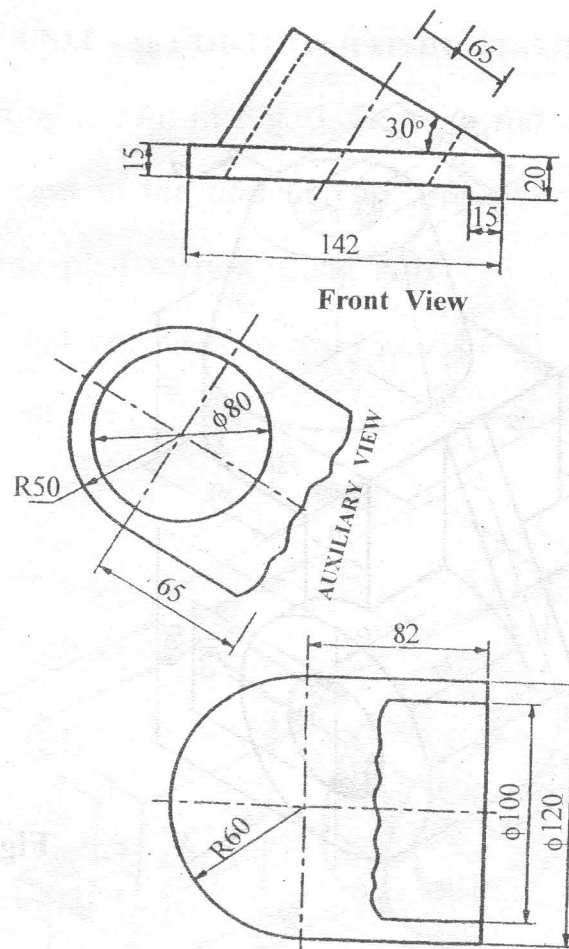

Fig. 5
Q.5) Fig. 5 shows front view, incomplete top view and partial auxiliary view of Bevel Washer.